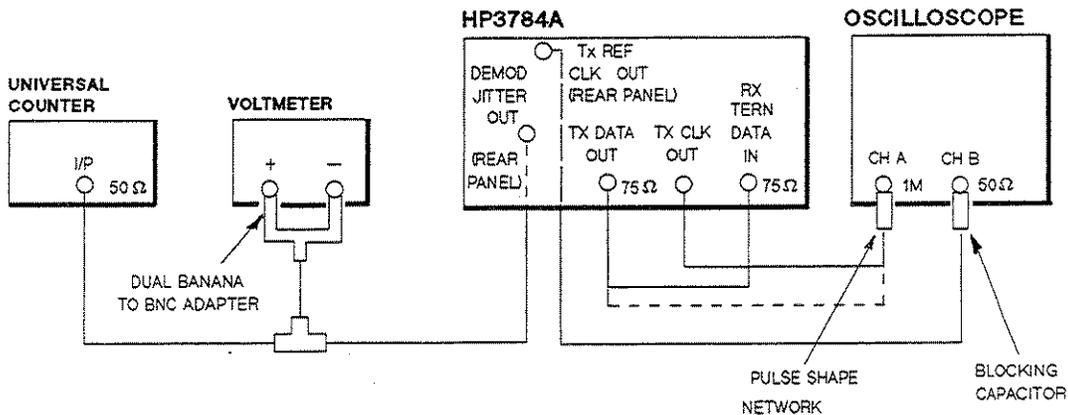

Figure 8-26 Internal Modulation Test Set-up
1. Connect the test equipment as shown in Figure 8-26